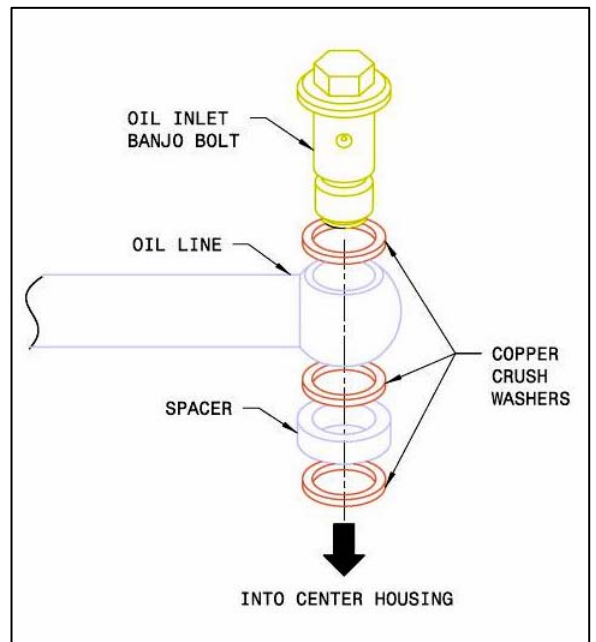
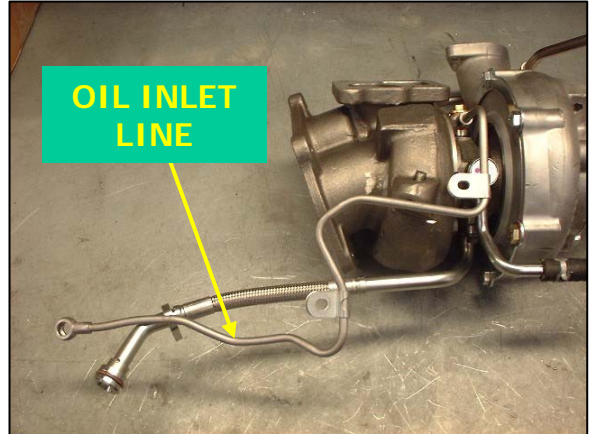

Fig. 33
Fig. 34
36. Install the OE oil feed line onto the top of the Garrett turbo center housing. Use the new banjo bolt supplied in the kit, along with the short steel spacer and the **three** new 12mm copper crush washers. Order of assembly **onto bolt:** 1st washer, oil line, 2nd washer, spacer, 3rd washer. The bolt, together with washers, spacer and oil line, is then installed into the center housing. Ensure that the crush washers stay centered and are not jammed by the bolt or spacer during installation. Snug the banjo bolt (do not tighten) so that the oil line can be adjusted on the vehicle. Bolt will be tightened later in step 43. See *Fig. 33* for assembly order. See *Fig. 34* for approximate orientation on turbocharger.
(Fig. 34 shows approximate orientation of oil inlet line on turbocharger. Do not tighten inlet bolt yet; oil line will need to be adjusted once turbocharger is installed on vehicle.)